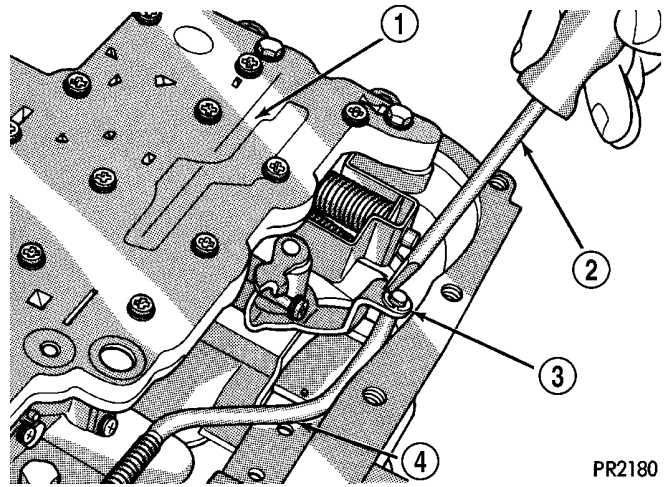

Fig. 78 Parking Rod E-Clip
(39) Install park rod into position and retain with e-clip (Fig. 78).